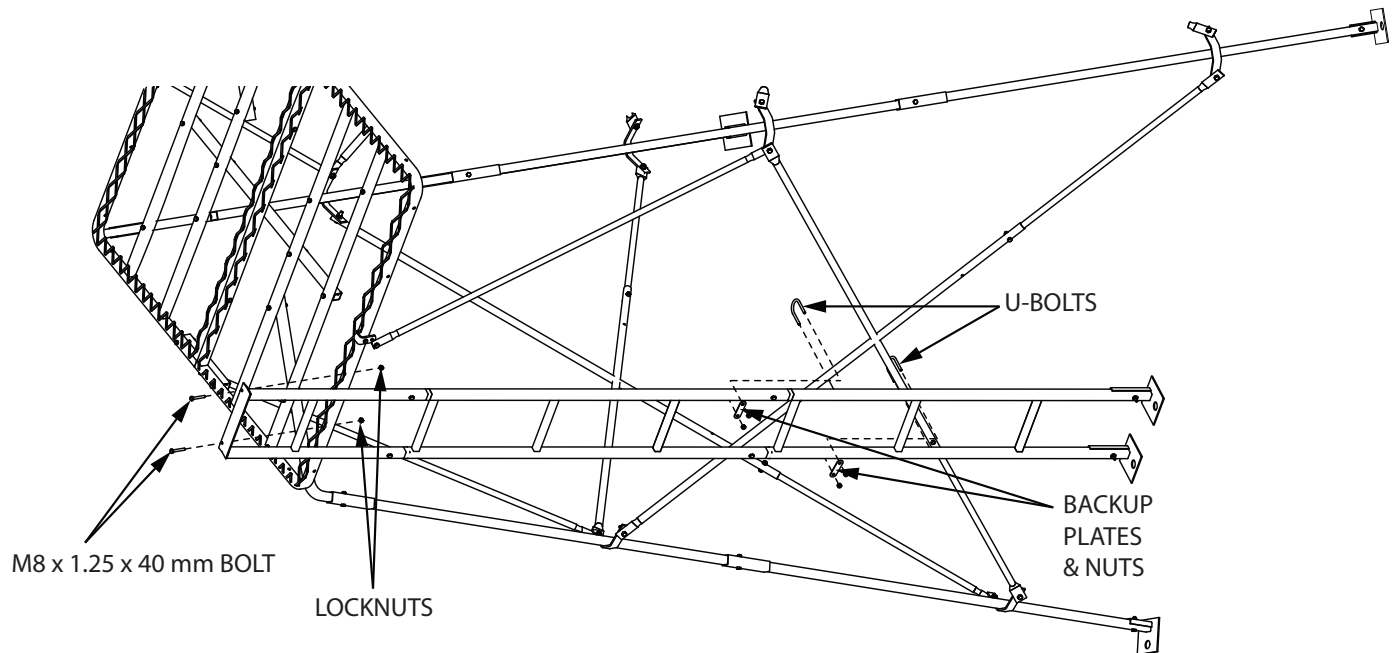

FIGURE 13
22. Attach assembled ladder to the platform using (2) provided M8 x 1.25 x 40 mm bolts and locknuts. See figure 13. Plate of top ladder section should be mounted on top side of platform.
23. Attach the ladder assembly to the cross braces using the (2) provided U-bolts/backup plates/nyloc nuts and tighten securely. This will hold the ladder securely to the cross braces. See figure 13.